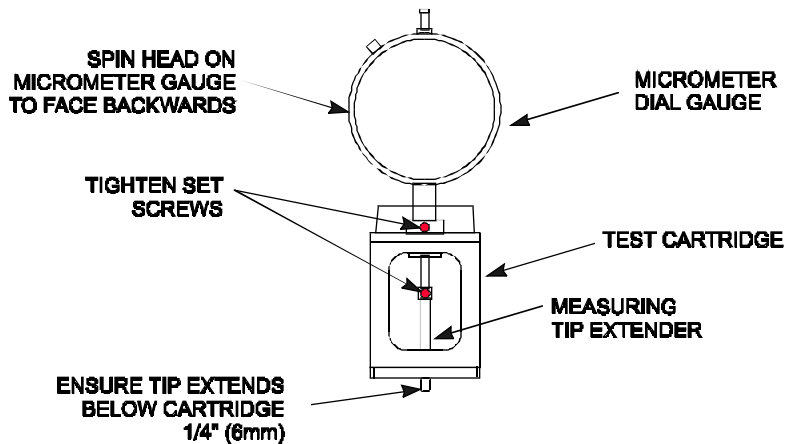

Figure 3-17. Setting Up Tools from Height Gauge Kit.
2. Obtain the 3 tools (Micrometer Dial Gauge, Test Cartridge, and Measuring Tip Extender) from the Height Gauge Kit. Assemble the tools as shown in Figure 3-17.